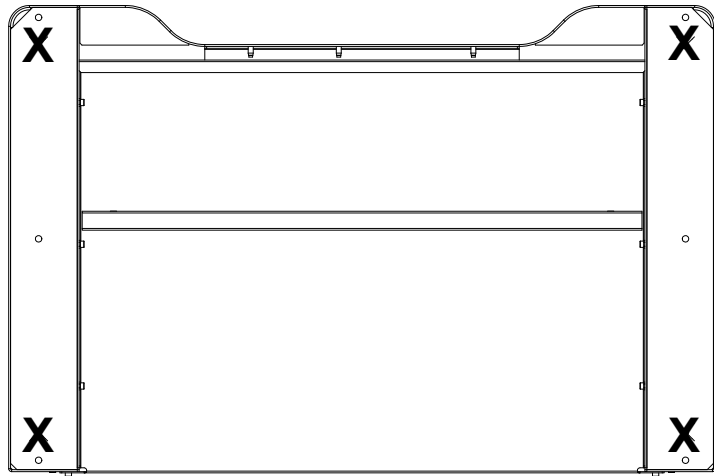

Figure 20. Underside of frame showing location of frame feet
6. Locate any frame feet that may have been removed in order to bolt the frame to the skid and reinstall them in the locations shown in Figure 20 on page 73.